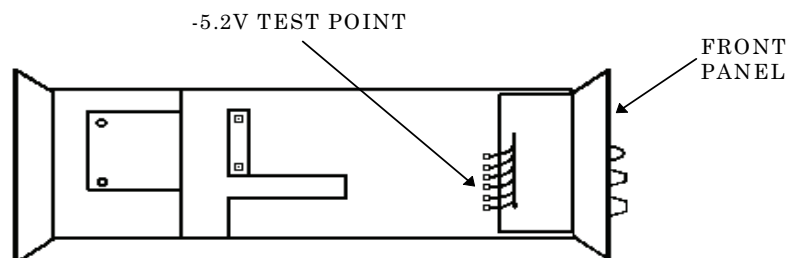

Figure 3. TD-1225A(V)1/U (Hewlett-Packard, Model 5342A/H14), TD-1225A(V)2/U (Hewlett-Packard, Model 5342A/H16) and Hewlett-Packard, Model 5343A - bottom view.
**a. Performance Check.** Connect multimeter HI to -5.2 V TEST POINT (fig. 3) and LO to chassis ground. If multimeter does not indicate between -5.1 and -5.25 V dc, perform **b** below.